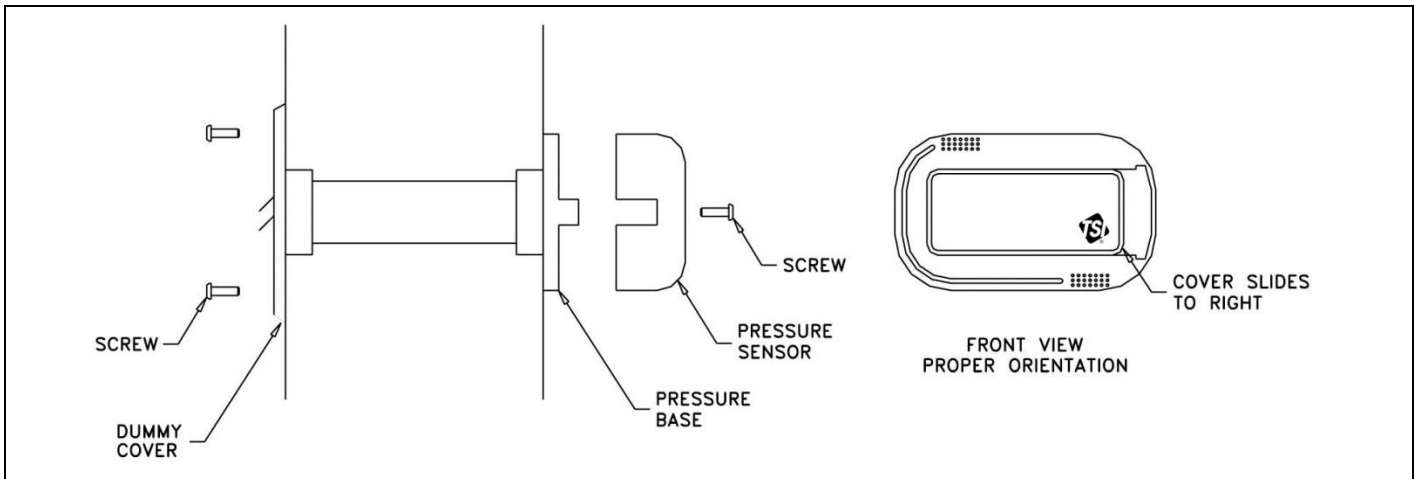

Figure 4: Pressure Sensor Mounting
- Install and screw the pressure sensor and dummy cover onto the bases. Slide covers to the left to hide the sensor. Finished installation should look as shown in Figure 4.